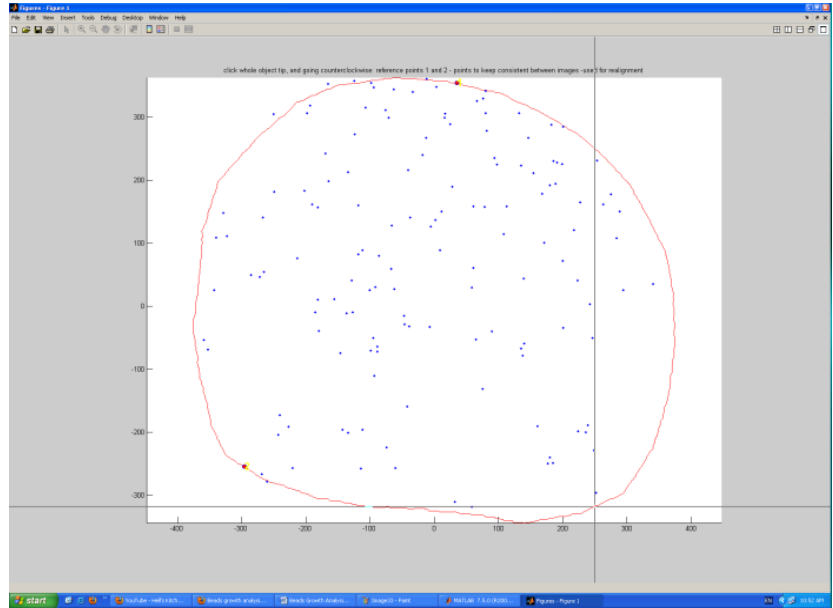

Figure 14. Adjusting the leaf orientation
**Adjusting the orientation of the leaf shape:** Select three orientation points using the mouse (left click) or the tracer pen on a Cintiq monitor (Figure 14). In order (counter clockwise), select: the leaf tip, the left side of the petiole and the right side of the petiole.